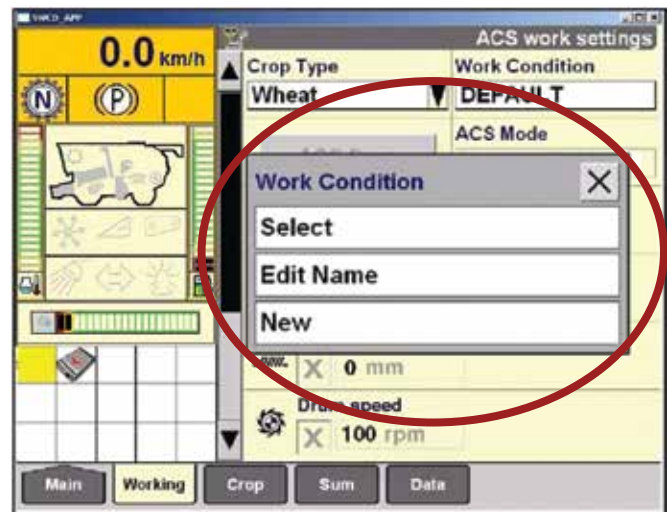

Figure 11.2
- Go to the “Crop Type” window and select the desired crop which allows the operator to select an existing Work Condition, edit the name of an existing condition, or create a new Work Condition (see figure 11.2)